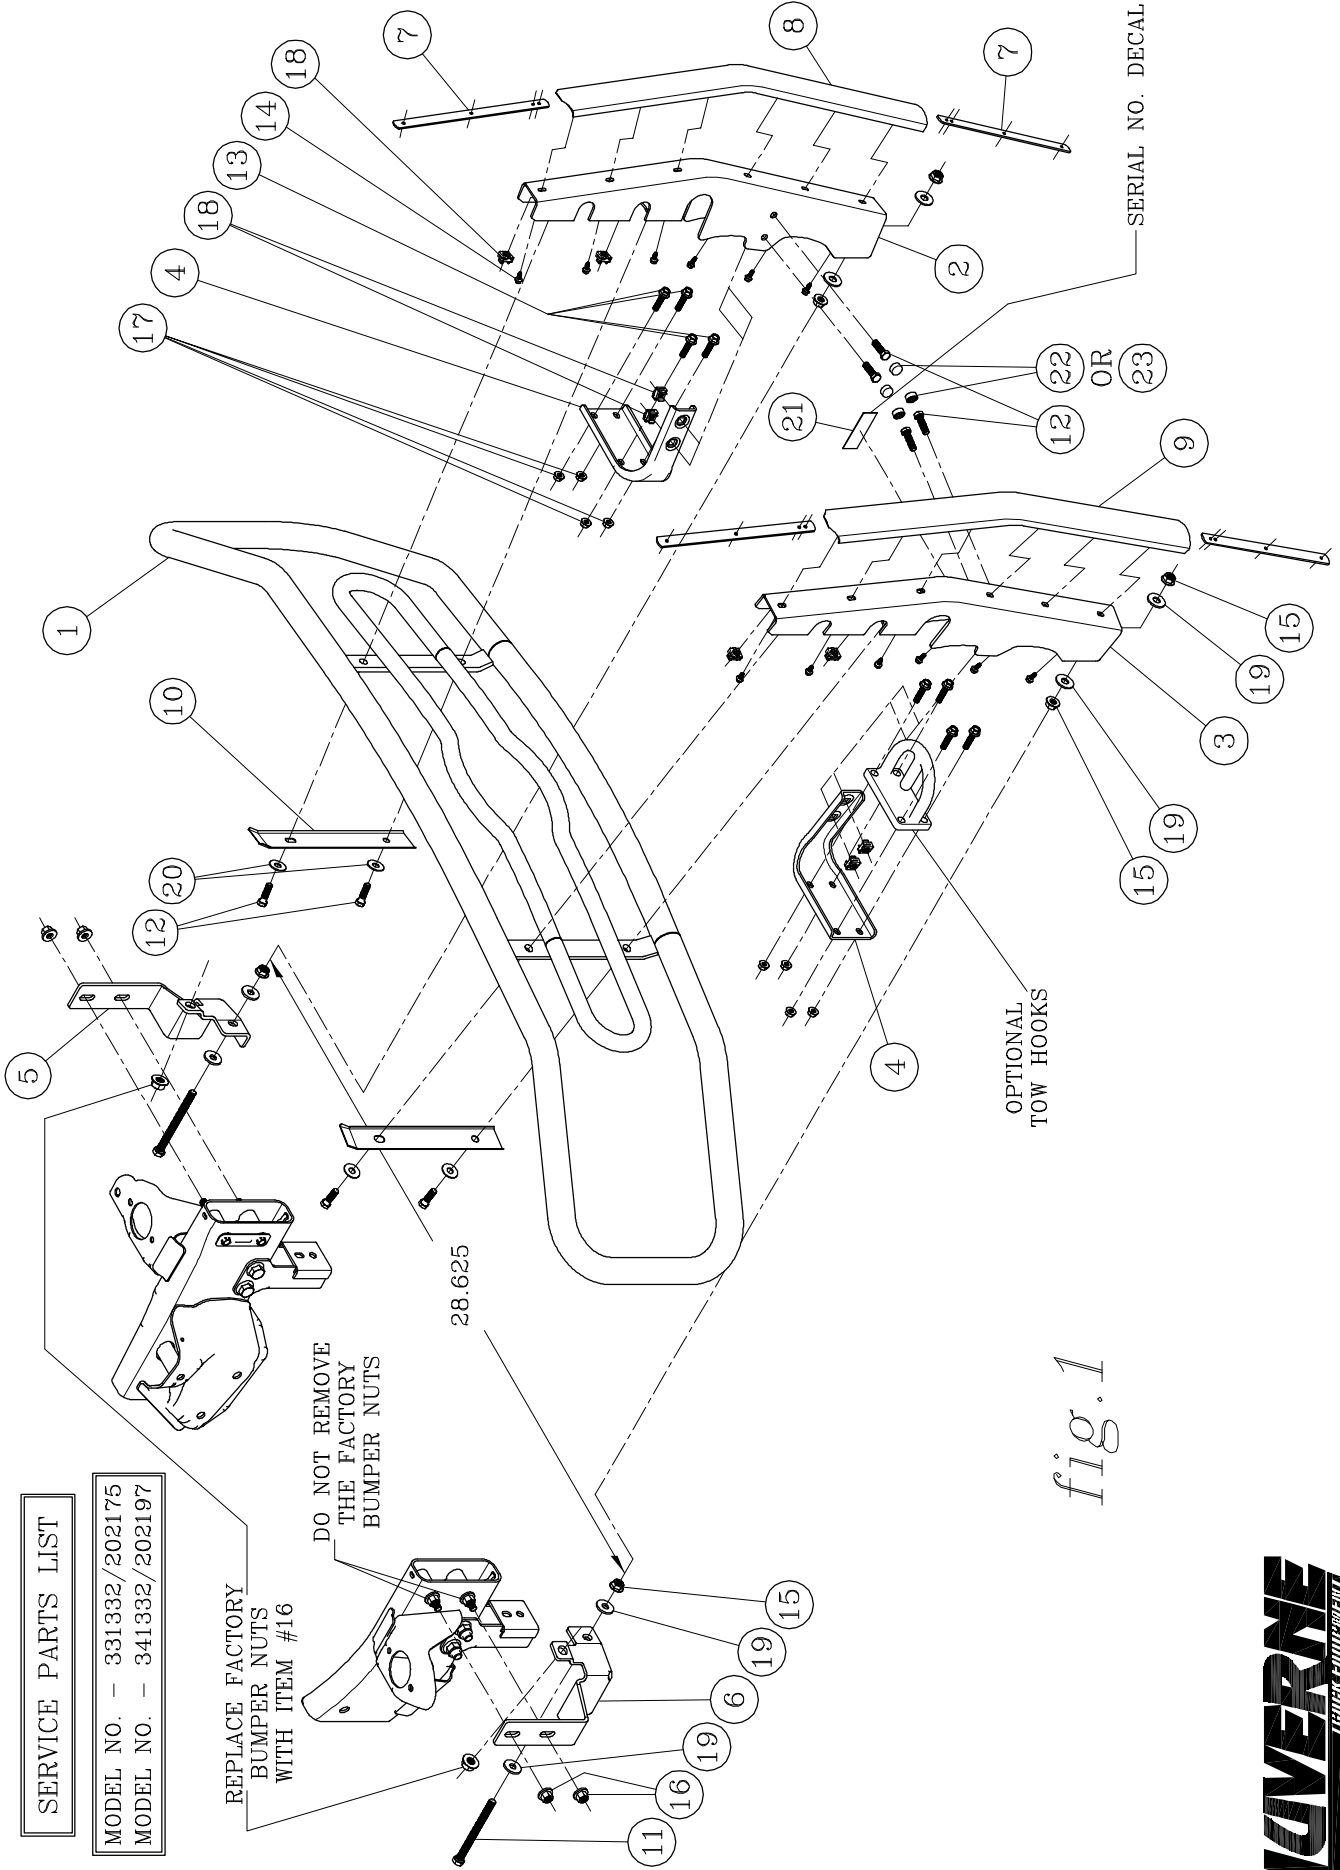

fig.1
3. INSTALL THE TOP MOUNTING BRACKETS (ITEM #4) TO THE PLATES ON THE END OF THE FRAME USING THE FOUR 3/8"-16 X 1-3/4" WASHER HEAD BOLTS (ITEM #13) AND THE FOUR 3/8"-16 FLANGE NUTS (ITEM #17). IF YOU HAVE TOW HOOKS, REINSTALL THEM AT THIS TIME AS SHOWN IN *Fig. 1*. HAND TIGHTEN ONLY AT THIS TIME.
6. ON THE 1/2" X 6" BOLTS (ITEM #11), INSTALL A 1/2" FLAT WASHER (ITEM #19) AND INSERT IT THROUGH THE HOLES IN THE BOTTOM MOUNTING BRACKETS FROM THE BACK SIDE. INSTALL ANOTHER FLAT WASHER (ITEM #19) AND A 1/2"-13 FLANGE NUT (ITEM #15). INSTALL ANOTHER FLANGE NUT (ITEM #15) FACING FORWARD AND ANOTHER FLAT WASHER (ITEM #19). WITH THE END OF THE BOLT THROUGH THE LOWER MOUNTING PLATE IN THE UPRIGHT, INSTALL A FLAT WASHER (ITEM #19) AND A 1/2"-13 FLANGE NUT (ITEM #15). SEE *Fig. 1*.